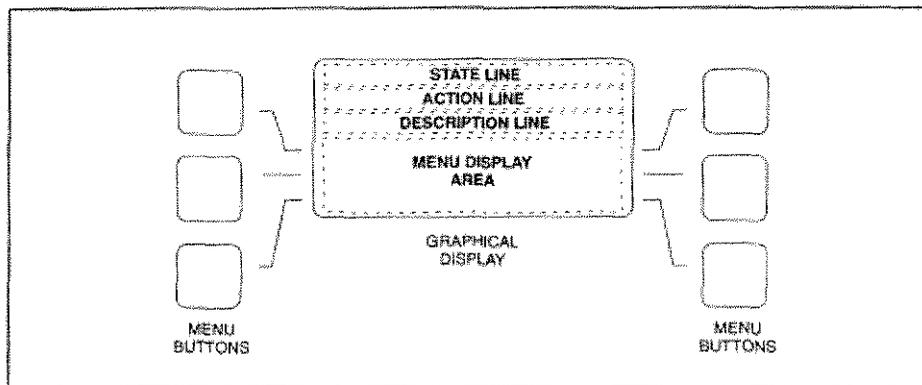

FIGURE 3-3. GRAPHICAL DISPLAY AND MENU SELECTION BUTTONS
- Fault codes/messages will be displayed in the **Description Line** of the graphical display. (Refer to Figure 3-3 above)